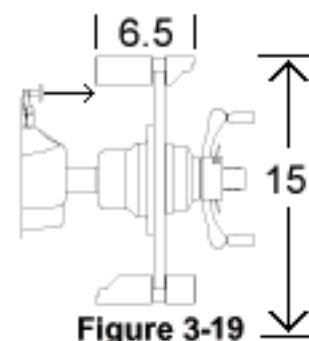

Figure 3-19
1. Enter C83 using the <±> keys and press the <F> key. Mount the Pruefroter on the balancer shaft and lower the wheel guard to perform a measuring run. (Figure 3-19)